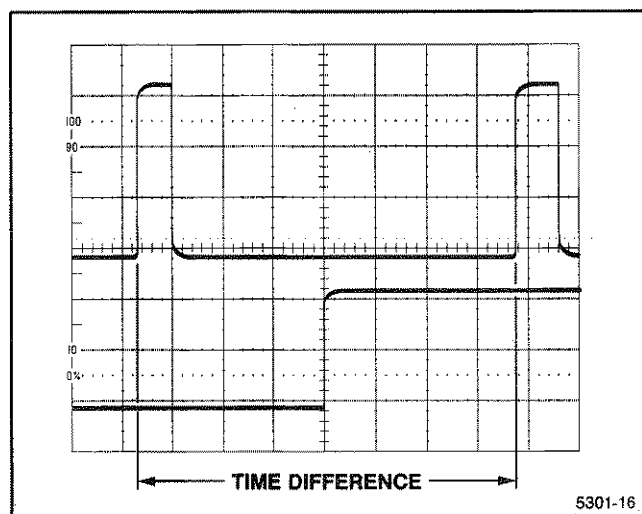

Figure 6-8. Time difference between repetitive pulses.
5. Read the time difference between pulses at the points of interest (see Figure 6-8).